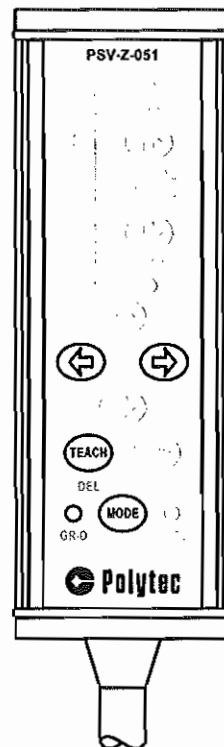

Figure 5.5: Checking alignment points using the hand set PSV-Z-051
2. Change the GRID mode by pressing the MODE key on the hand set (LED GRID is lit up, refer to FIGURE 5.5).
1. Change the GRID mode by pressing the MODE key on the hand set (LED GRID is lit up, refer to FIGURE 5.5).